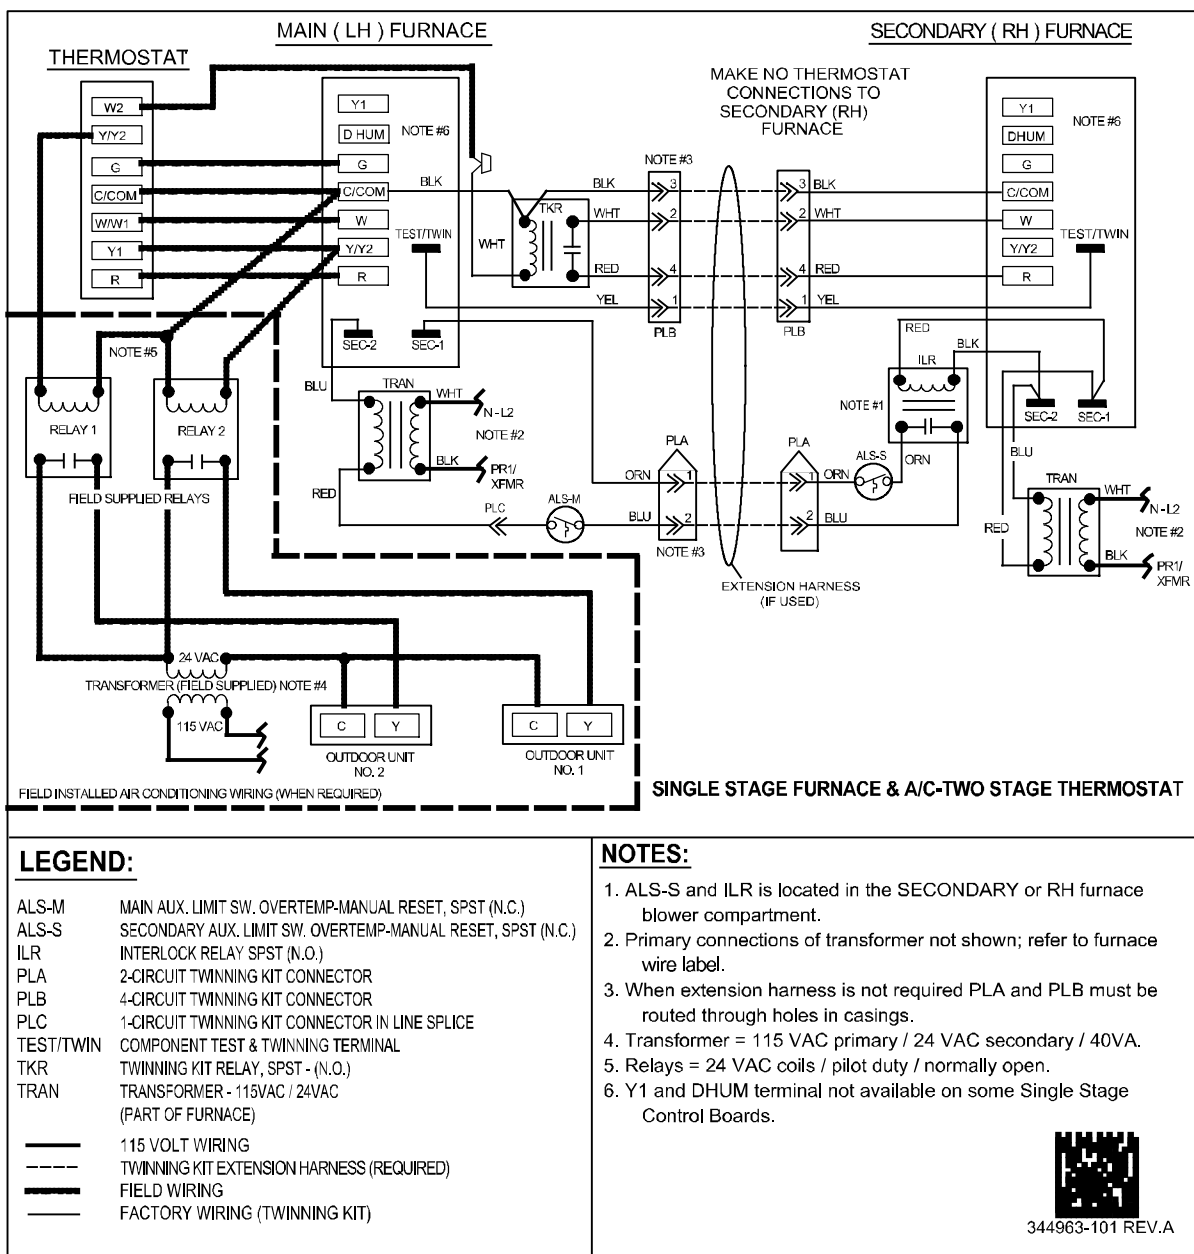

Fig. 20 - Single-Stage A/C Operation, Single-Stage Furnaces with Single-Stage Thermostat
- a. For single-stage operation of single-stage furnaces connect the White wire with the fork terminal labeled "W" on the TKR to the "W" terminal on the thermostat strip of the Main furnace control board. See Fig. 20.
For Single-Stage A/C Operation, Single-Stage Furnaces with Single-Stage Thermostat See Fig. 20.
See Fig. 20 and Table 4